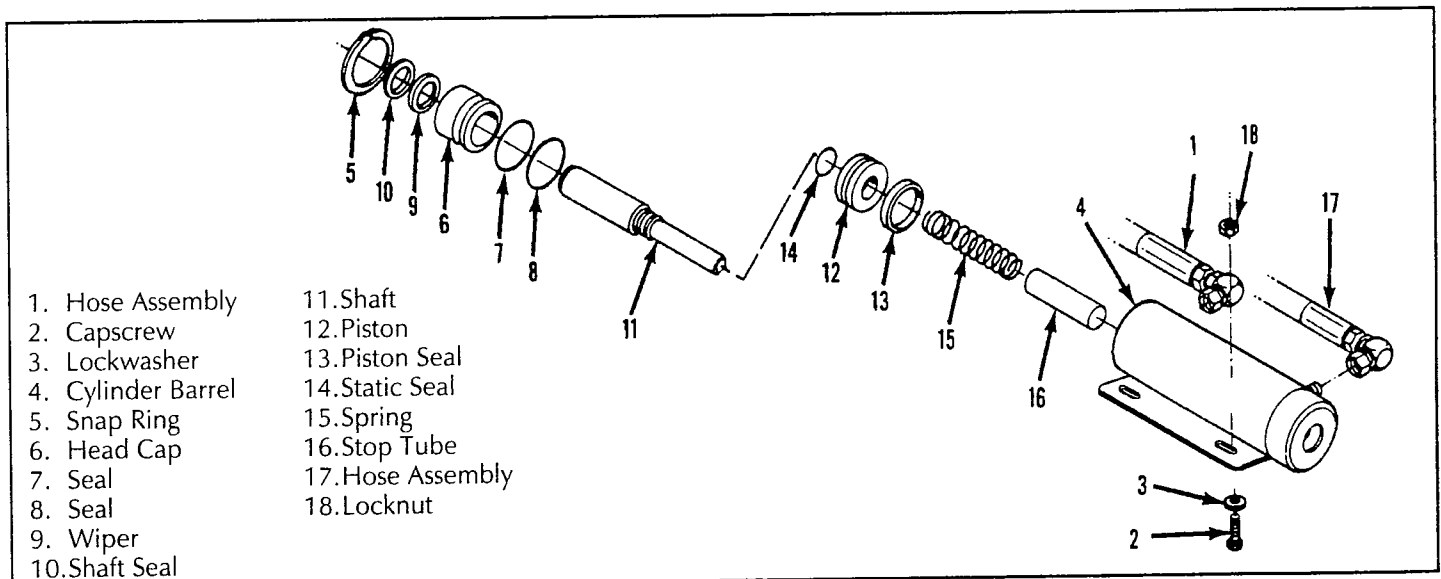

Figure 4-17: Brake Cylinder
4.11 Brake Cylinder (Figure 4-17)